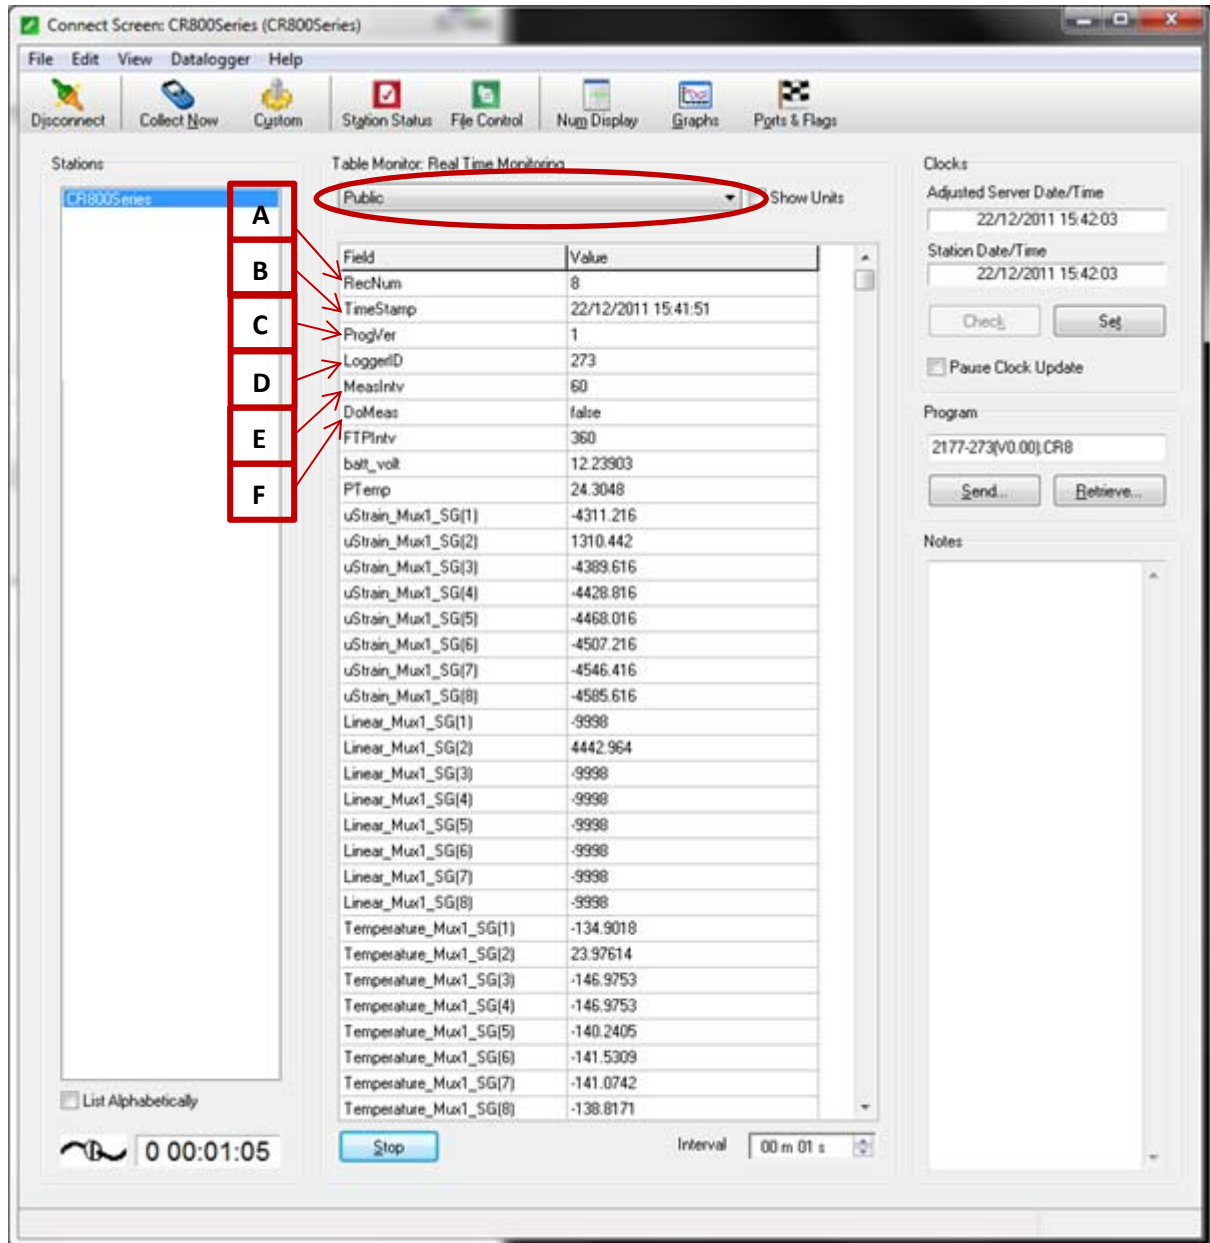

Figure 16. Once connected select the “Public” table
Once connected it is possible to view the last readings taken and change some of the logger parameters. This is done by accessing the “Public table” from the drop down menu on the connect screen (see **Figure 16.**)
- This will tell you how many scans have been performed since the logger has been switched on. This will not indicate how many readings have been taken but how many times the program has checked if the DoMeas is true. This will usually scan every minute (see **A** on **Figure. 16.**).
- This will display the current time set in the logger. This can be adjusted to the time of the PC connected to the logger by using the “Set” button in the top right corner (see **B** on **Figure. 16.**).
- The current version of the program (see **C** on **Figure. 16.**).
- The last three digits of the logger identification number (see **D** on **Figure. 16.**).
- The measure interval in minutes. This can be set by clicking on the number and retyping the number of minutes you wish to set the interval to, then pressing enter. In most cases this can be set between 1 to 1440 minutes. If set out of this range it will reset to the default measure interval (the interval asked for when the logger was purchased). When the logger is turned off and back on this will also reset the measure interval to its default (see **E** on **Figure. 16.**).
- When this is true the logger will take a reading on the next scan (in most cases this will be on the next minute). This will be true when the logger is first powered on. This can also manually be set to true by clicking on false, typing true then pressing enter (see **F** on **Figure. 16.**).